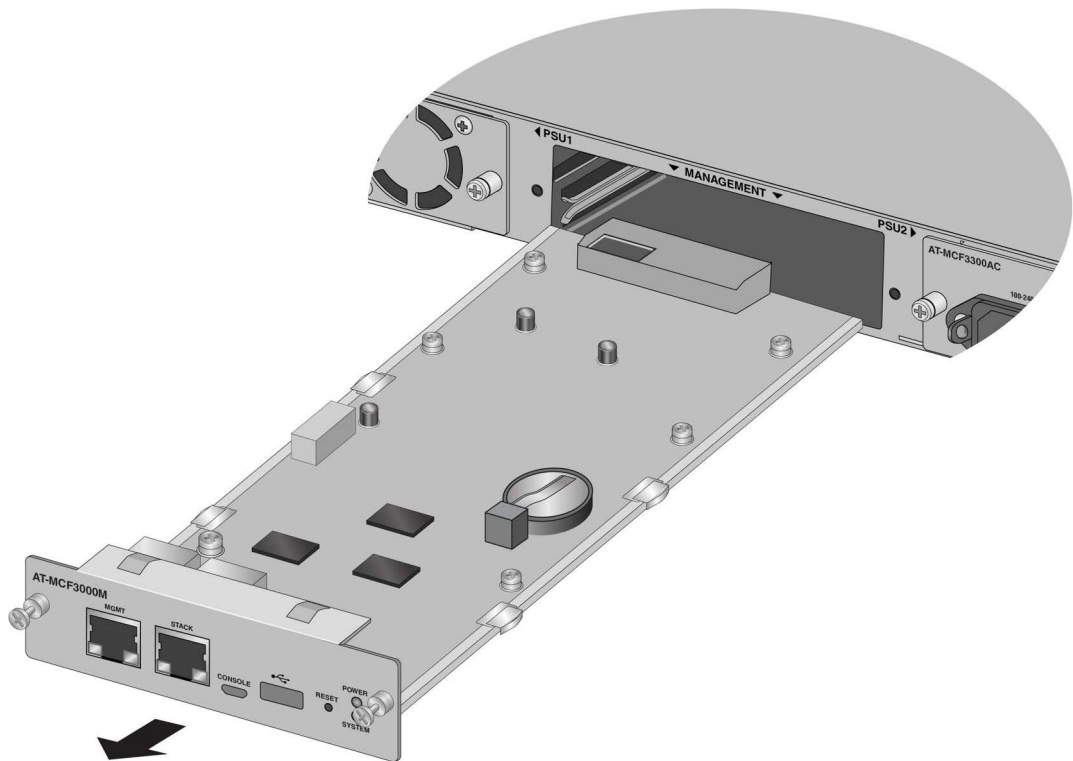

Figure 84. Removing the MCF3000M Management Module from the MCF3300 Chassis
4. Slide the module from the chassis. Refer to Figure 84.